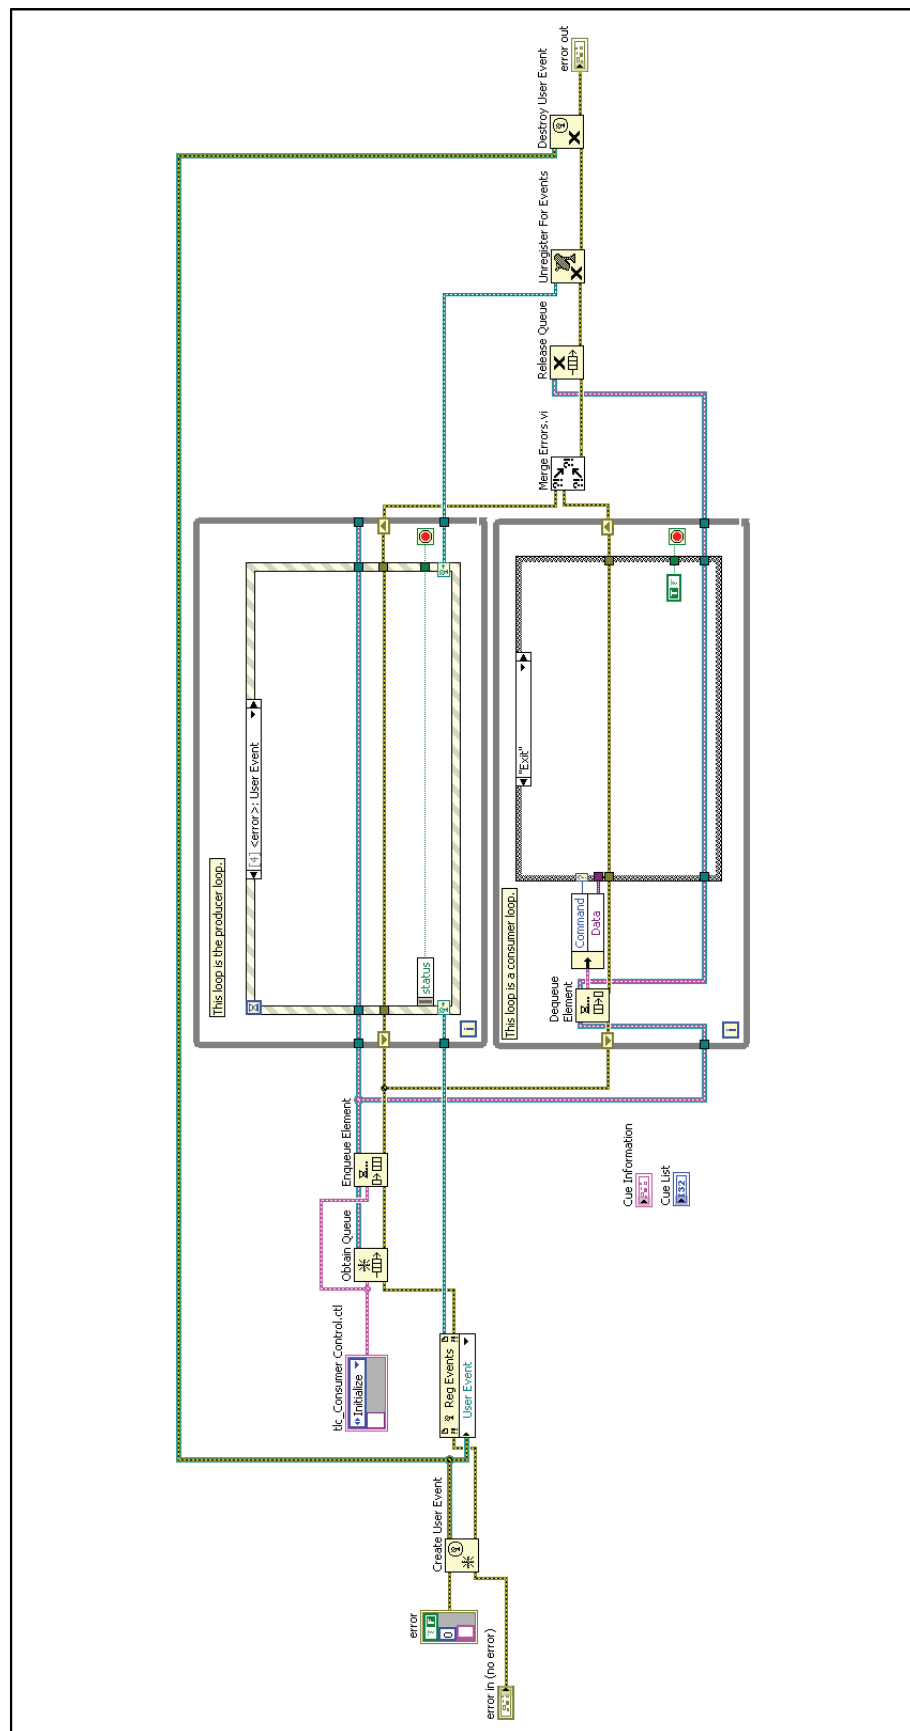

Figure 6-6. Theatre Light Controller Architecture with User Events
14. Complete the block diagram as shown in Figure 6-6 to create user events that allow the consumer loop to send error data to the producer loop to stop the producer.
- ☐ Wire the Release Queue, Unregister for Events, and Destroy User Events functions and the Merge Error VI as shown in Figure 6-6.
16. Connect the **error in** and **error out** clusters to the design pattern as shown in Figure 6-6.